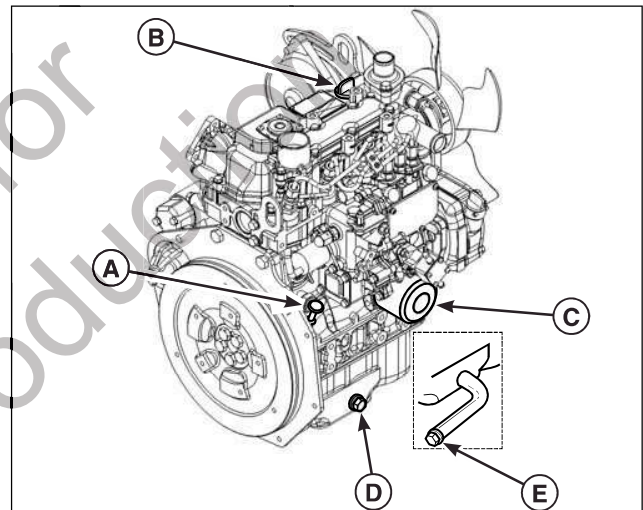

Figure 15. Engine Oil Fill
Refer to Figure 15 for dipstick and oil fill locations. Refer to the engine owners manual for specific engine oil check and fill procedures. Also refer to the engine owners manual for specific engine oil and filter change procedures
2. Remove the dipstick (A, Figure 15) to vent the crankcase and allow the engine oil to drain easily.
3. Place a small pan under the oil drain cap (D) to catch the oil. Using the appropriate tools, remove the oil drain cap and drain the engine oil.